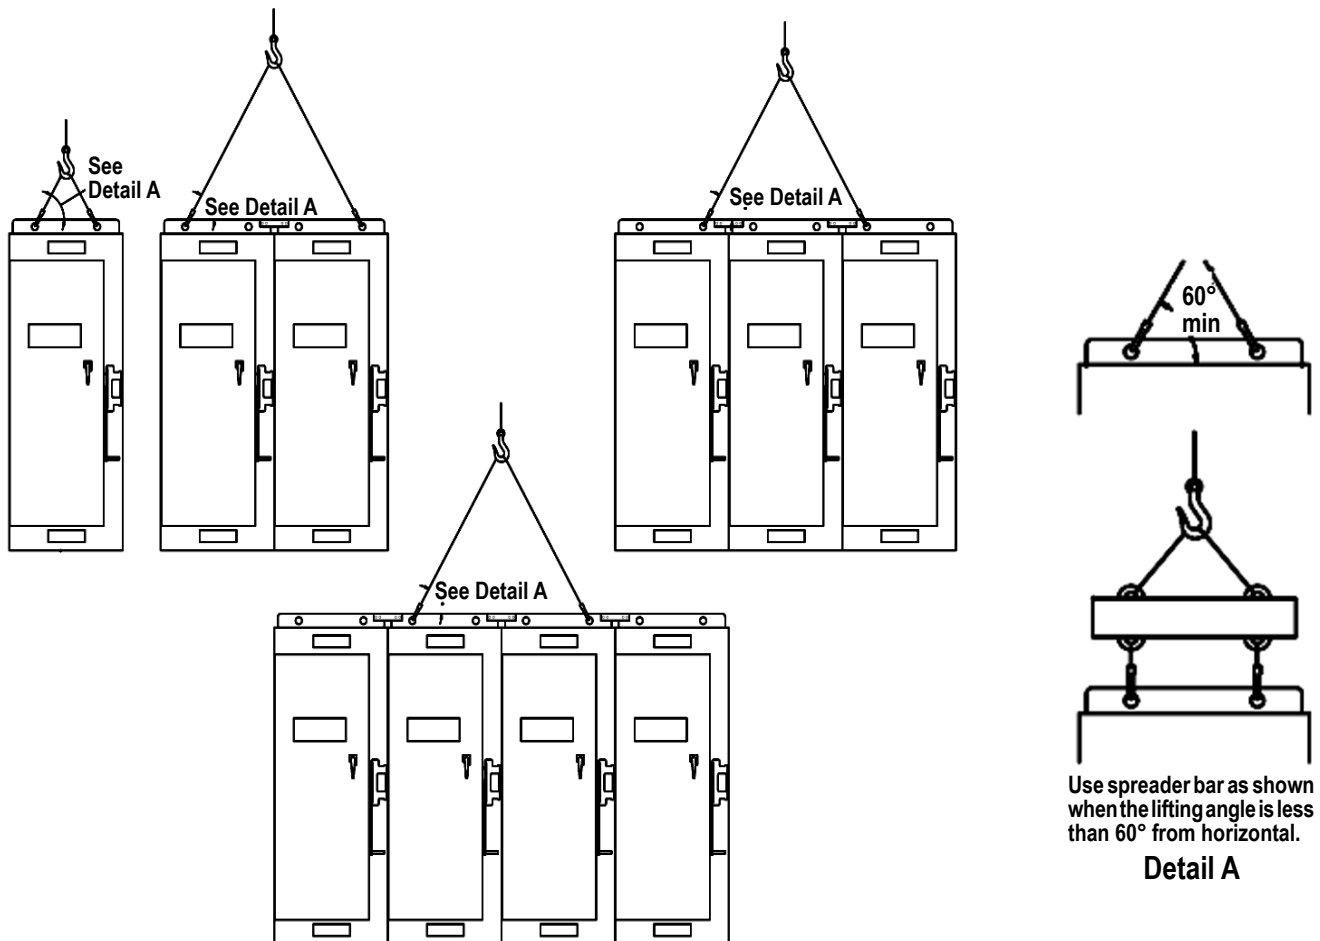
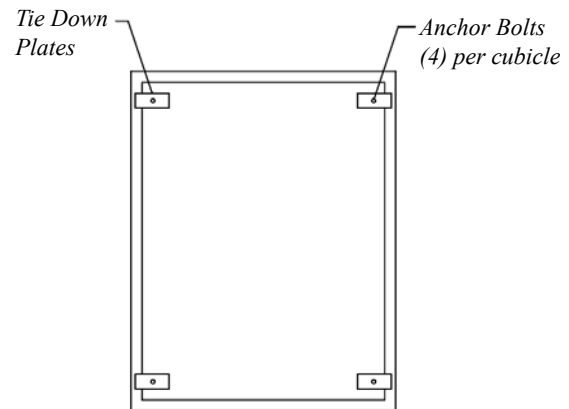

Figure 1. Hoisting arrangements for Federal Pacific Metal-Enclosed Switchgear.
Figure 3(a). Anchor-bolt and tie-down plate locations. Align level and shim bays so that holes between bays are in alignment.
1. Arrange hoist slings so as to distribute the lifting forces equally on all lifting holes. See Figure 1.
2. Do not apply lifting force to any lifting holes at an angle less than 60 degrees from the horizontal. See Detail A, Figure 1.
3. If it is not possible to adhere to Instruction 2 use a spreader bar as shown in Detail A, Figure 1.
Step 1 - Transport the switchgear to the installation site observing the precautions given under the "**HOISTING**" section in Figure 1.
Step 3 - Each bay of a multi-bay assembly is identified by a number on the front of the bay. Proper positioning of the switchgear is indicated by corresponding numbers on the anchor-bolt plan shown in Figure 3(a) and shown in the drawing enclosed in the waterproof envelope labeled: "**OPERATION AND MAINTENANCE MANUAL PACKET**".
With all shipping skids removed lift the unit over the anchor bolts, observing the precautions given under "**HOISTING**" in Figure 1. Align the channel base so that it is square with and centered around the rectangular anchor bolt pattern shown in Figure 3(a).